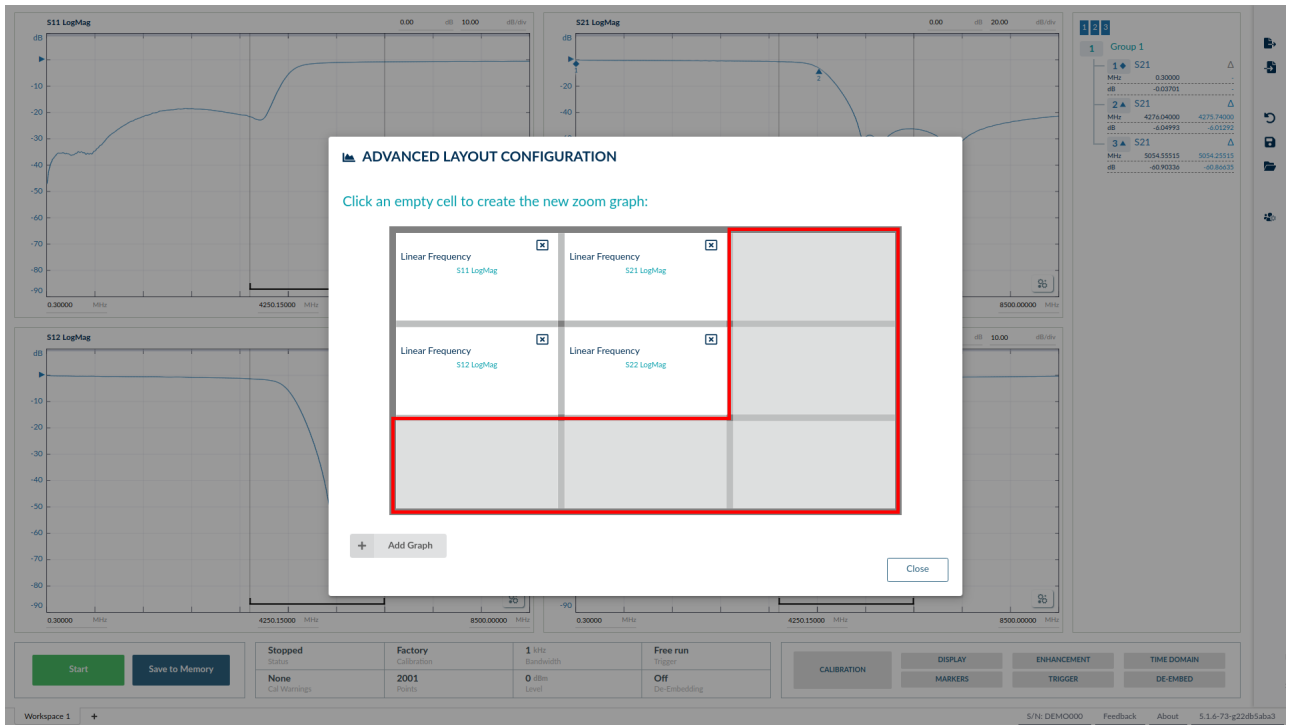

Figure 4.30: A new graph can be created in any of the available display slots (highlighted).
3. Press the “+ Graph” button that hovers over the selected span region in order to create a new viewport to view the zoomed region. The available slots are enclosed in red in Figure 4.30.